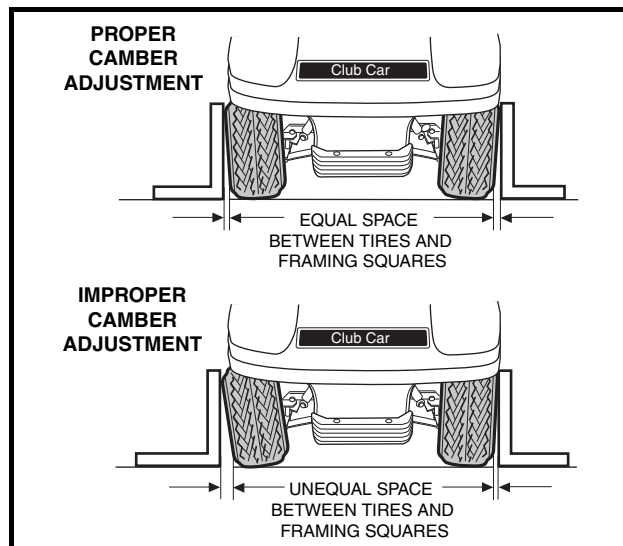
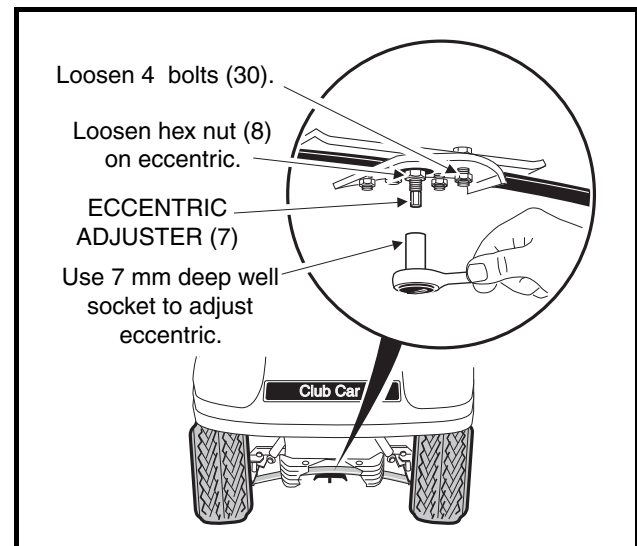
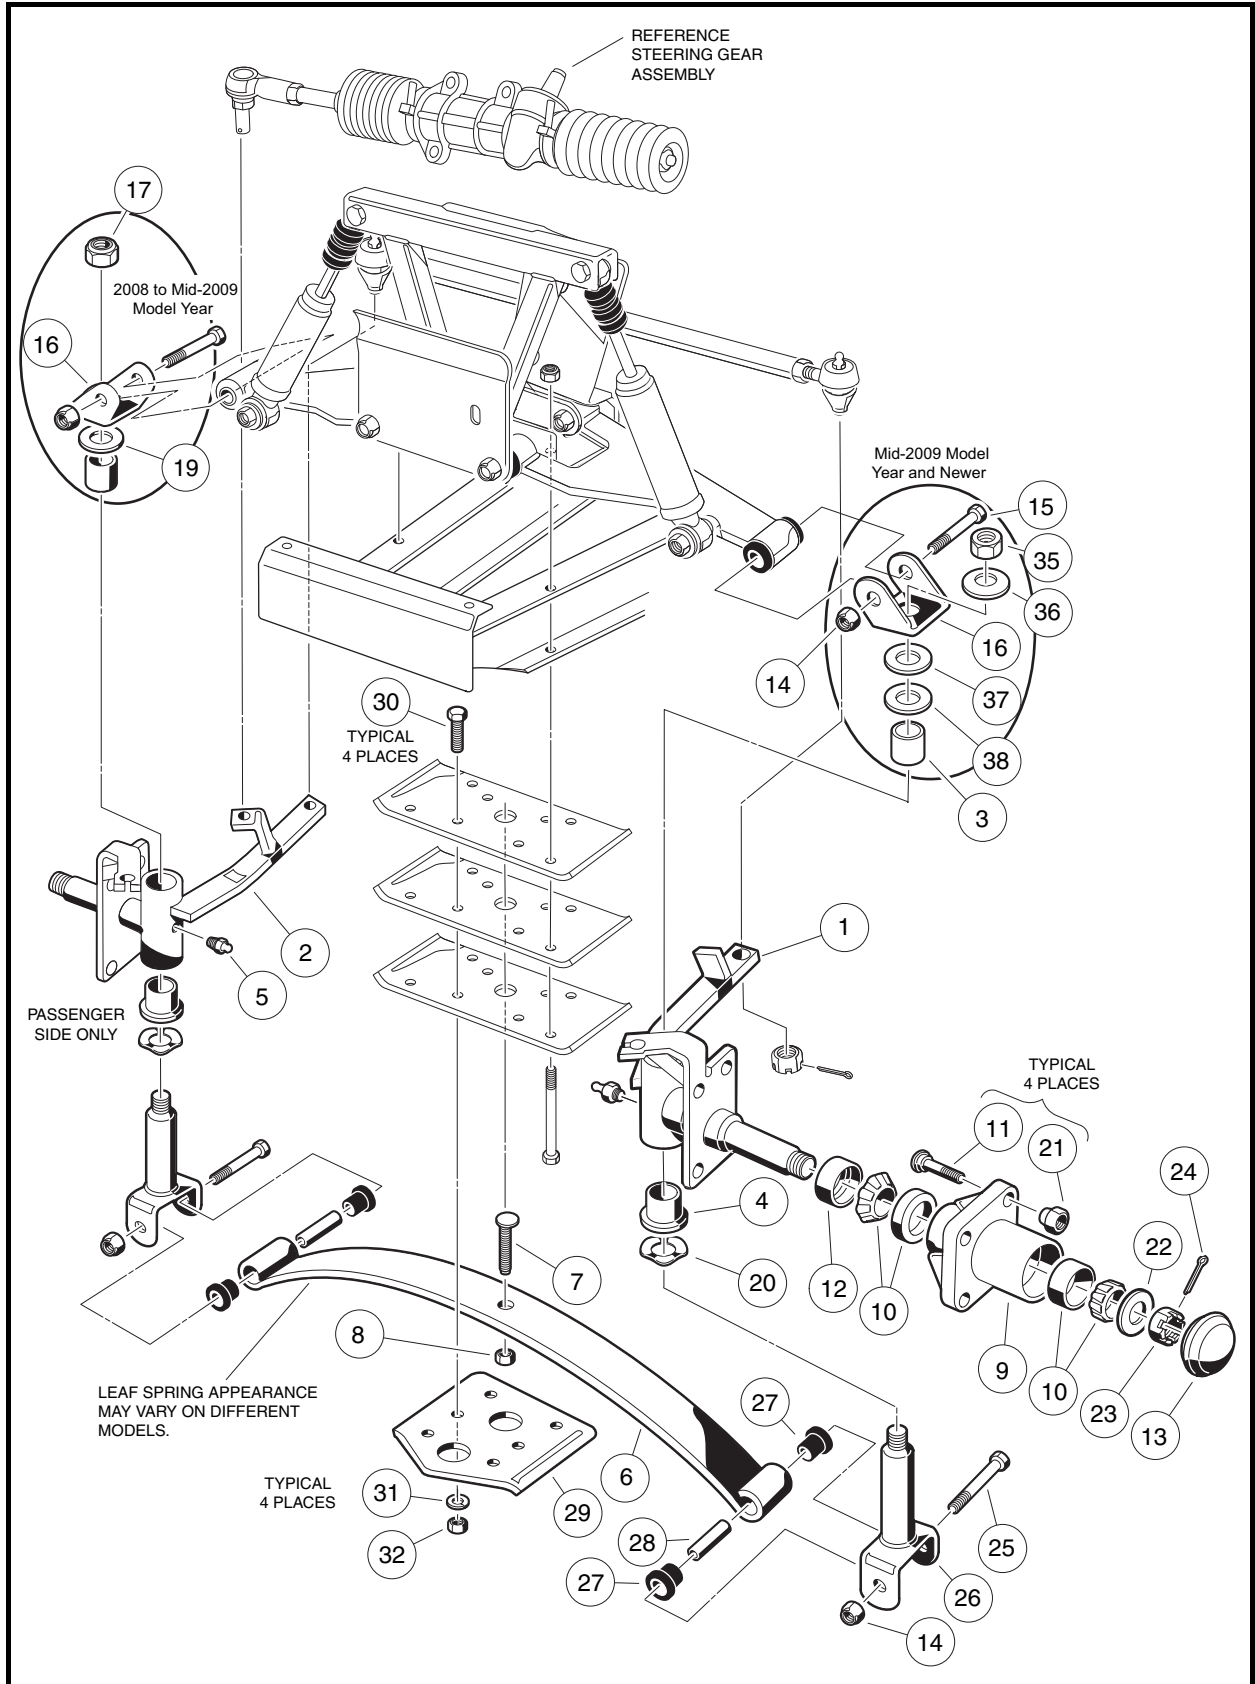

Figure 7-16 Check Camber
Figure 7-17 Adjust Camber
Figure 7-24 Four-Wheel Brake Vehicle – Lower Portion
1. Check each front wheel with a framing square. At the floor (or ground), there should be an equal amount of space between each tire and the framing square (**Figure 7-16, Page 7-16**).
2. Loosen, but do not remove, the four bolts (30) that secure the leaf spring (6) to the bottom spring plate (29) (**Figure 7-22, Page 7-21 or Figure 7-24, Page 7-23**). See also **Figure 7-17, Page 7-16**.
3. Loosen, but do not remove, the hex nut (8) on the adjustment eccentric (7) (**Figure 7-22, Page 7-21 or Figure 7-24, Page 7-23**) in the center of the spring. **See also Figure 7-17, Page 7-16.**
4. Use a 7 mm deep well socket to rotate the eccentric (**Figure 7-17, Page 7-16**).
5. After adjusting camber, tighten the four spring retaining bolts (30) (**Figure 7-22, Page 7-21 or Figure 7-24, Page 7-23**) to 23 ft-lb (31 N·m). Then roll the vehicle forward one full tire revolution and recheck the camber. **See also Figure 7-16, Page 7-16.**
6. Tighten the hex nut (8) on the adjustment eccentric (7) to 23 ft-lb (31 N·m) (**Figure 7-22, Page 7-21 or Figure 7-24, Page 7-23**). **See also Figure 7-17, Page 7-16.**
3. Remove the nuts (14) and bolts (25) from the bottom of each king pin (26) (**Figure 7-22, Page 7-21 or Figure 7-24, Page 7-23**).
4. Remove the four bolts (30), four nuts (32), four lock washers (31), and bottom spring plate (29).
5. Remove tapered leaf spring (6).
6. Check the condition of the urethane bushings (27) and steel sleeves (28). Replace any that are worn or damaged.
1. Install urethane bushings (27) and steel sleeves (28) into leaf spring eyes (**Figure 7-22, Page 7-21 or Figure 7-24, Page 7-23**).
2. Install tapered leaf spring (6), bottom spring plate (29), four bolts (30), four lock washers (31), and four nuts (32). Using a crisscross pattern sequence, tighten bolts to 23 ft-lb (31 N·m).
3. Install spring in king pins (26) with bolts (25) and nuts (14). Tighten to 23 ft-lb (31 N·m).
- 4.1. Remove the nut (17) from the top of the kingpin (26) (**Figure 7-22, Page 7-21 or Figure 7-24, Page 7-23**).
- 5.1. Remove the nut (35) and conical washer (36) from the top of the kingpin (26) (**Figure 7-22, Page 7-21 or Figure 7-24, Page 7-23**).
2. Install the kingpin (26) over the leaf spring eye. Insert the bolt (25) and install the nut (14) (**Figure 7-22, Page 7-21 or Figure 7-24, Page 7-23**). Tighten the bolt to 23 ft-lb (31 N·m).
3. Install the wave washer (20) and steering spindle on the kingpin.
5. **For 2008 to mid-2009 model years:** Install the thrust washer (19), upper plate clevis (16), and nut (17). Tighten the nut to 40 ft-lb (54.2 N·m).
6. **For mid-2009 model year and newer:** Install the thrust washer (38), hardened flat washer (37), upper plate clevis (16), conical washer (36), and nut (35). Tighten the nut to 63 ft-lb (83 N·m).